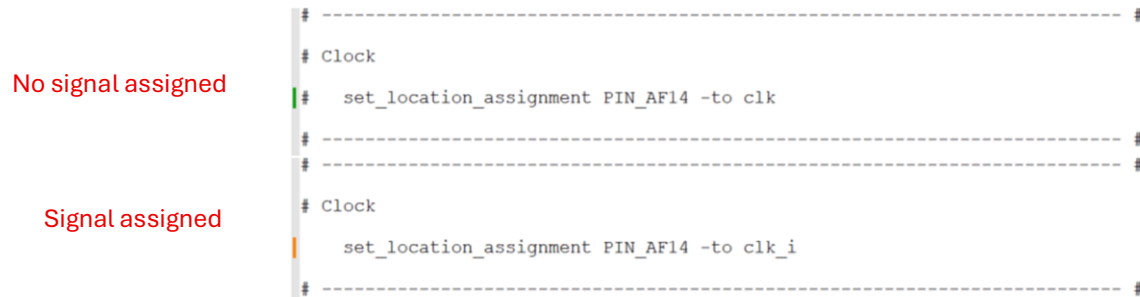

Figure 4. Example of a Signal Assignment
11. To assign a pin to a signal in your design, replace the generic placeholder name with your **signal name** and **remove the # character** at the beginning of the line. This character is used to comment the line, so **removing it is necessary** for Quartus to recognize the assignment. Figure 4 shows an example of a signal assignment.